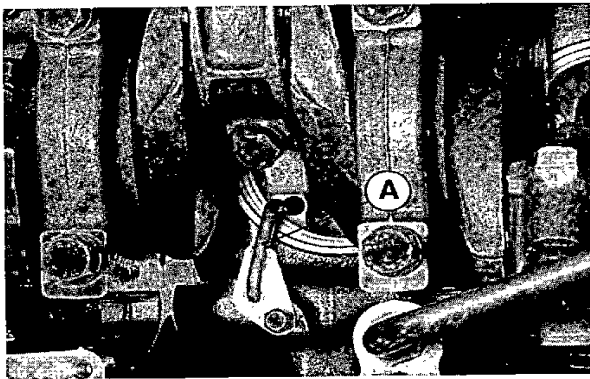

Fig. 63. Piston cooling jet (A)
5. **TD70, TID70, TAMD70:** Rotate the crankshaft and check that the piston cooling jets are pointing towards the oil channels in each piston, when the piston is at the bottom turning point (fig. 63).